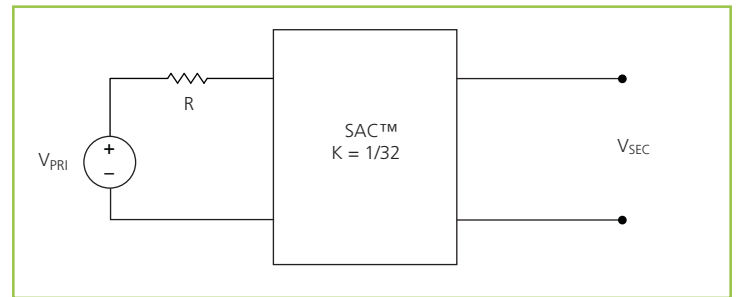

Figure 15 — K = 1/32 Sine Amplitude Converter™ with series primary resistor
The use of DC voltage transformation provides additional interesting attributes. Assuming that RSEC = 0 Ω and IQ = 0 A, Eq. (3) now becomes Eq. (1) and is essentially load independent, resistor R is now placed in series with VPRI as shown in Figure 15.
Assuming that  $R = 1 \Omega$ , the effective R as seen from the secondary side is  $0.98 \text{ m}\Omega$ , with  $K = 1/32$  as shown in Figure 15.